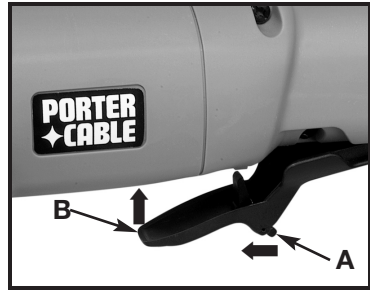

Fig. 1
3. Push forward on the switch release lever (A) Fig. 1 as you squeeze the switch paddle (B) to turn the tool "ON".